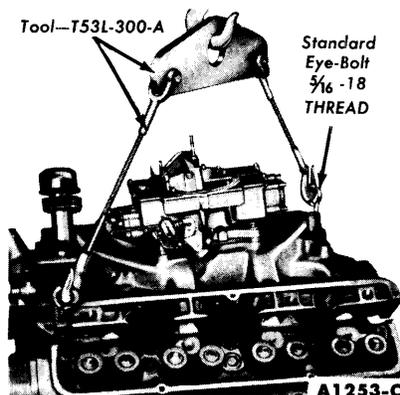

FIG. 21—Intake Manifold Removal or Installation
14. Install standard eye bolts with 5/16-18 threads in the left front and right rear rocker arm cover screw holes. Attach the engine lifting sling (Fig. 21).
5. Install the eye bolts in the intake manifold and attach the engine lifting sling and carefully lower the intake manifold on the engine (Fig. 21).